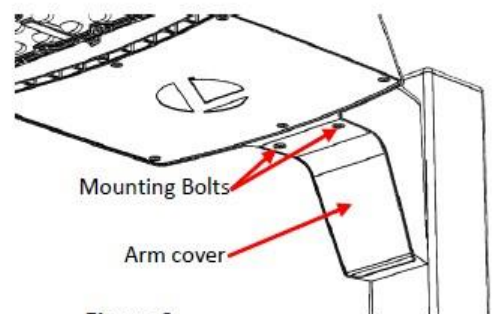

Figure 6
7. Reinstall the cover removed in step 1, tighten the two captive screws with the 9/64 Allen wrench to 18-20 in-lbs (overtightening can cause thread stripping and void all warranties) (See Fig 6).